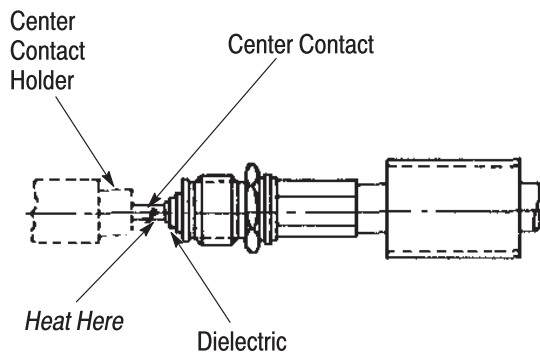

Figure 5
11. Push the center contact over the inner conductor of the cable and adding solder through the site hole as required. See Figure 5.